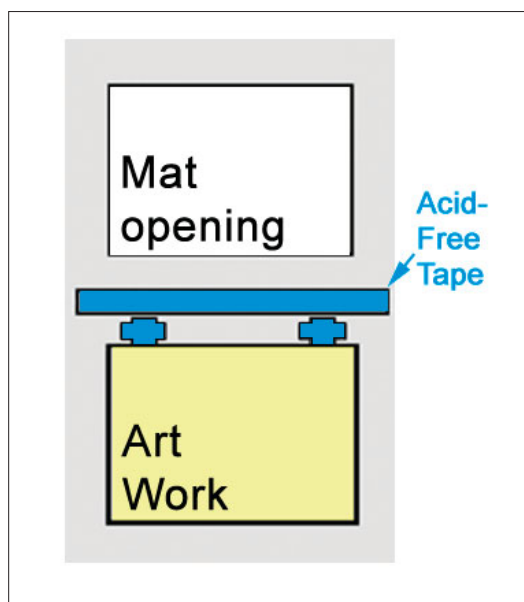

Figure 6.16
- If mounting a print on a mat for framing, the method that preserves the print longest is called a hinge mount, as shown in Figure 6.16.